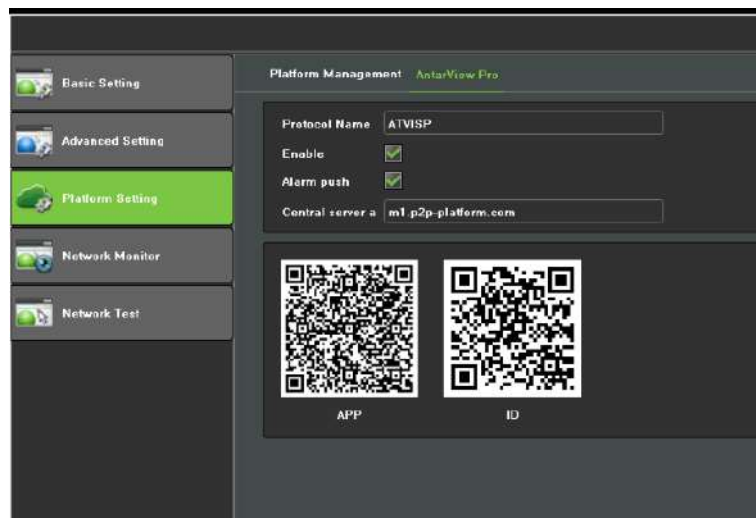

Figure 2.6 QR Code
- After the network setting, click **Next** button to enter the QR Code interface, as shown in Figure 2.6.